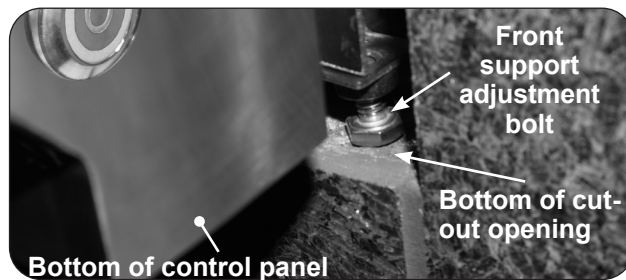

Fig. 28-1 Front support adjustment bolts
5. Rotate the front support adjustment bolts (up or down) until the pizza oven hanger rests flush on the countertop, AND, the adjustment bolts are touching the supporting structure found at the bottom of the cutout (lower support). Use a $7/16$ " open-end wrench as needed. See Fig. 28-1.